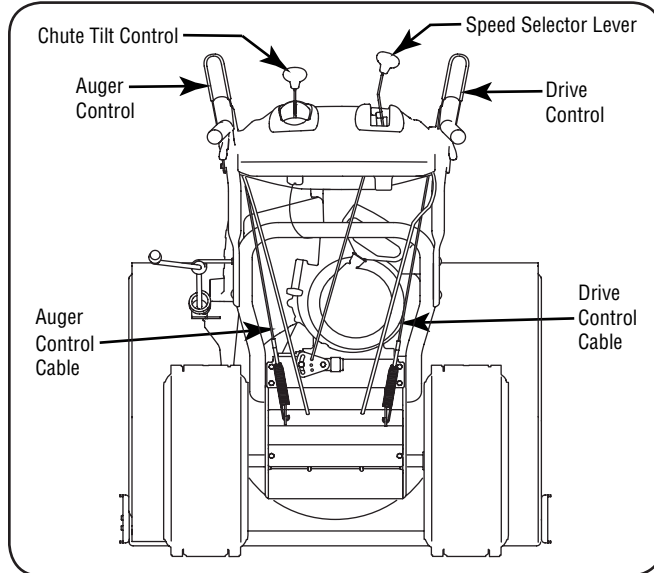
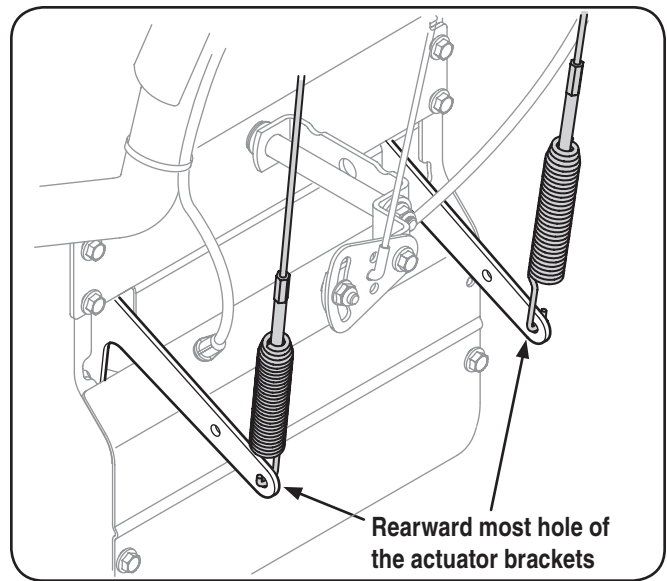

Figure 3-9
Figure 3-10
3. Looking beneath the handle panel, check that all of the cables (steering, auger, shift, and drive) are properly routed and not pinched or kinked. Make certain the springs at the lower end of the auger and drive cables are securely hooked into their respective actuator bracket. See Figure 3-9.
1. When the auger control is released and in the disengaged "up" position, the cable should have very little slack. It should NOT be tight. Refer to Figure 3-9.
4. Allow the auger to remain engaged for approximately ten (10) seconds before releasing the auger control. Repeat this several times.
1. With the engine turned off, move the speed selector lever into sixth (6) position. Refer to Figure 3-9.
1. From beneath the handle, pull downward on the appropriate cable and unhook the spring found on the end of the cable from its respective actuator bracket. Refer to Figure 3-9 and Figure 3-10.